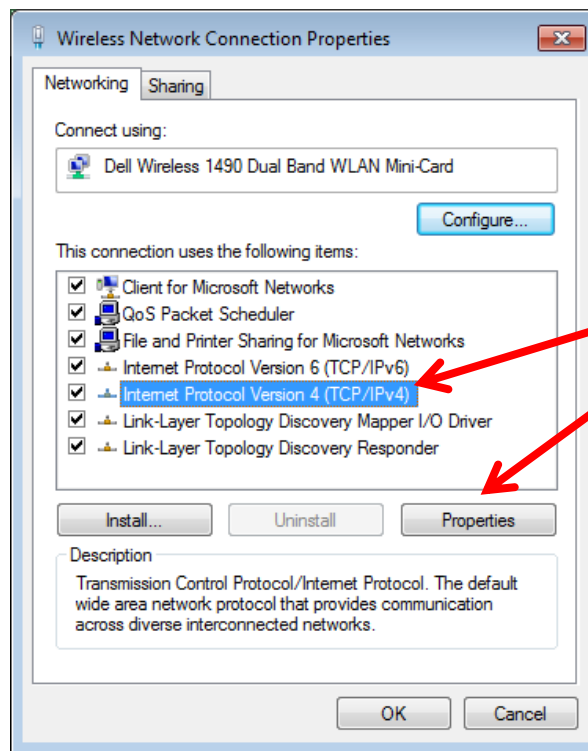

Figure 4. Connection Properties
7. Click to highlight **IPv4** protocol, and then click the **Properties** button. **Fig. 4**